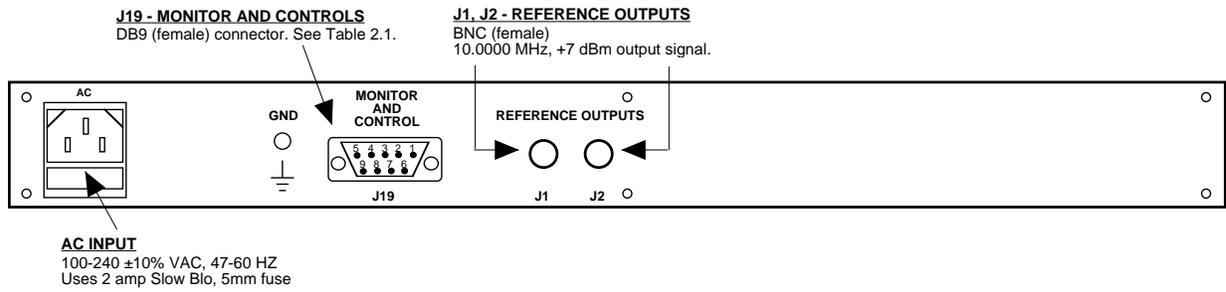

FIGURE 2.1 2099-10 Rear Panel Outputs
2.2 Rear Panel Output Signals - Figure 2.1 shows the input and output connectors on the rear panel.
- 1.) Connect REFERENCE OUTPUTS, J1 and/or J2, to the external equipment (Figure 2.1).